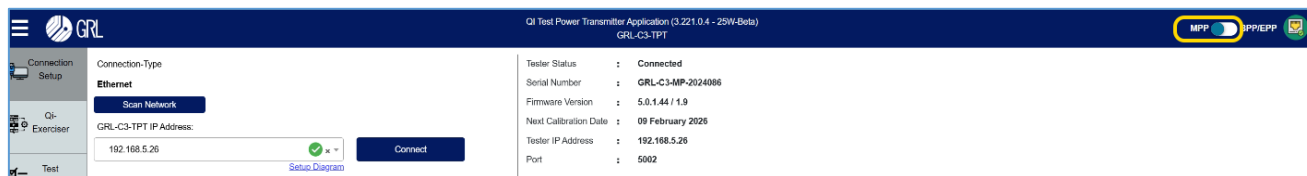

FIGURE 2.1: SET TO MPP POWER PROFILE
2. Ensure that the power profile is set to **MPP** as indicated in Figure 2.1 below.